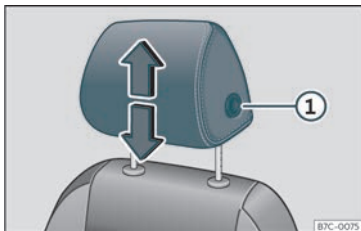
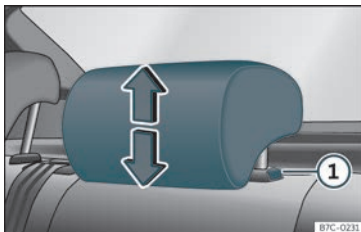

Fig. 103 Front seat: headrest adjustment.
Fig. 104 Rear headrest: headrest adjustment.
• Grab the sides of the headrests with both hands and push upwards to the desired position. To lower it, repeat the same action, pressing the ①»» Fig. 103 »» Fig. 104 button on the side.
• Press the side button»» Fig. 103 ① and remove the headrest.